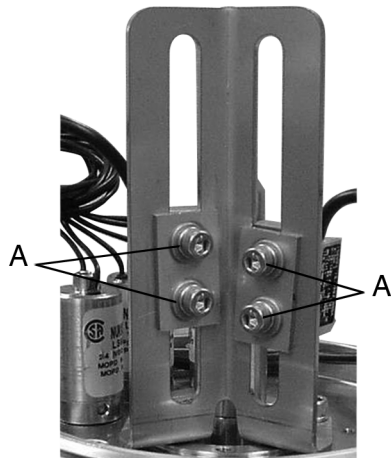

Figure 21 - Switch Adjustment
1. Raise the stem to open, then loosen the cap screws holding the switch blocks (Figure 21, item A) with a 9/64" allen wrench and slide the switches to set the distance between the switches and the stem shaft at 0.040" (1 mm). If using a micro switch, place a 0.020" feeler gauge between the roller and the small diameter of the stem. Adjust the switch toward the stem until a "click" is heard.
2. Hand-tighten the cap screws (Figure 21, item A) to hold the switch position.